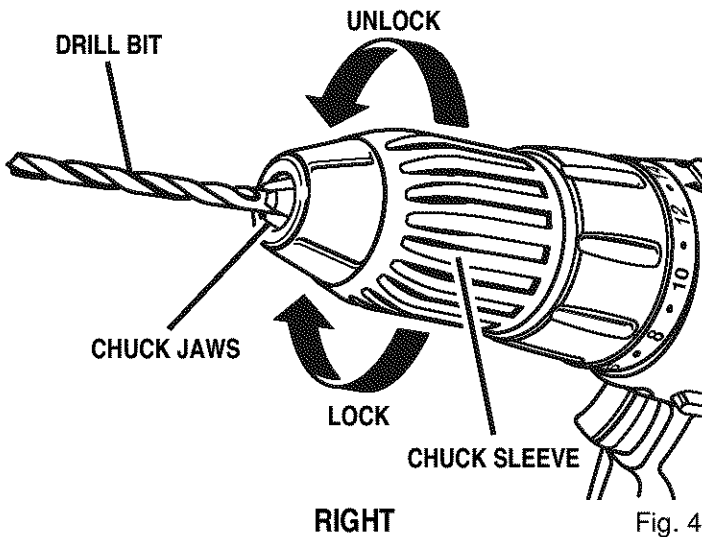

Fig. 4
See Figure 4.
- Insert drill bit straight into chuck the full length of the jaws as shown in Figure 4.